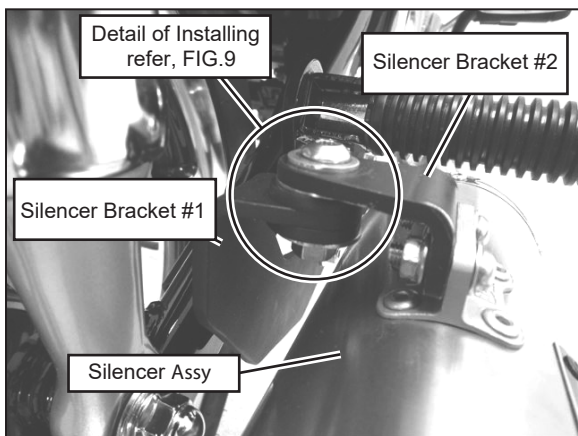

FIG. 8
7) Mount Silencer Bracket #1 on Silencer Bracket #2. Using Button Bolt M8x30 (SUS), Washer M8x20, 2-Washer M8x26 (See Fig. 8, 9). Tighten nuts by hand only at this stage